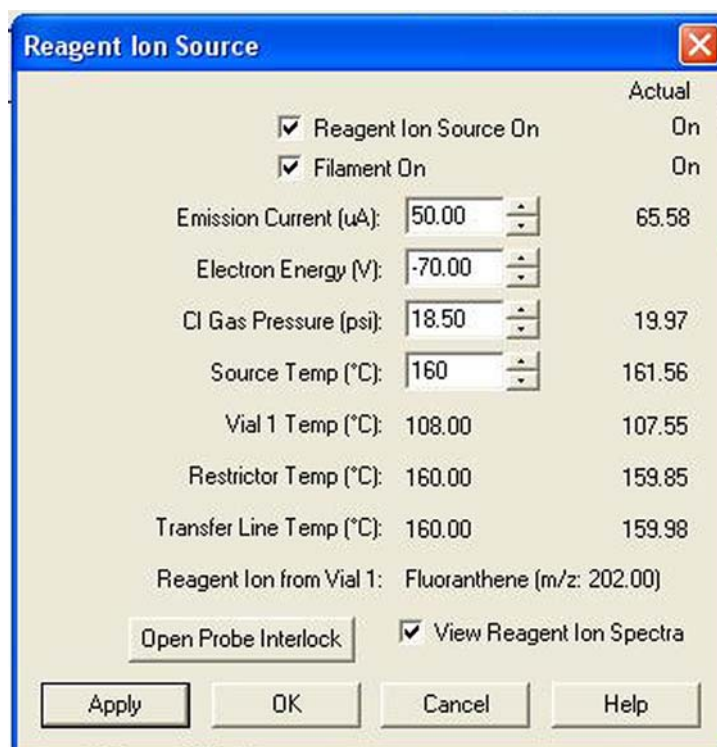

Figure 1-21. Reagent Ion Source dialog box
The reagent heaters are turned on by selecting the Reagent Ion Source On check box in the Reagent Ion Source dialog box. See Figure 1-21.
When the reagent heaters are in Standby mode, they are immediately turned on by selecting the Reagent Ion Source On check box (Figure 1-21 on page 1-27). When starting from room temperature, it takes up to ten minutes for the reagent heaters and vials to stabilize at 108 °C and reagent to delivered to the ion source.
- The reagent heaters turn off immediately when the Reagent Ion Source On check box is deselected in the Reagent Ion Source dialog box. (See Figure 1-21 on page 1-27.)